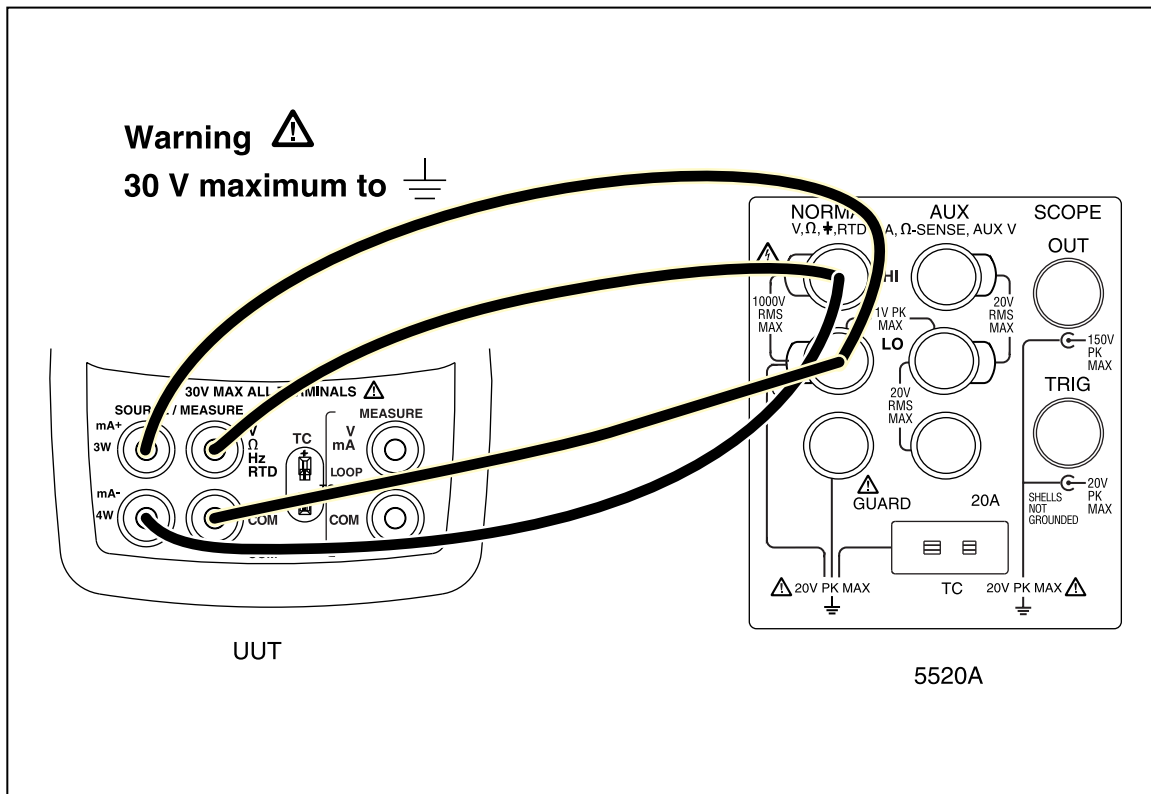

Figure 8. Lower Display 4-Wire Resistance Test Connections
3. Make the connections shown in Figure 8.